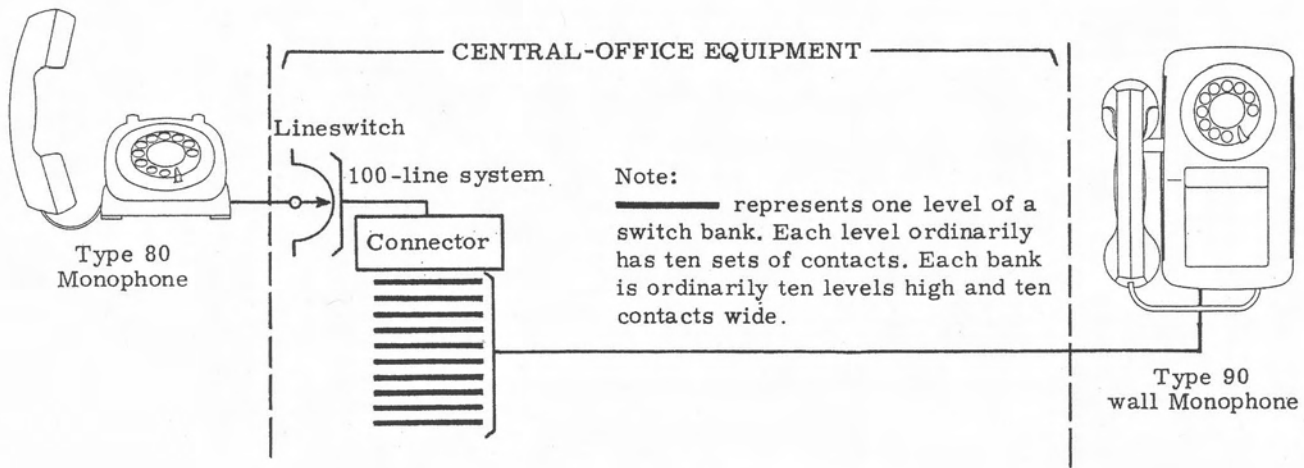

Fig. 61. 100-line system using lineswitches.
In 1906 a smaller and less expensive switch, the "lineswitch", was introduced. In a lineswitch system (figure 61), each subscriber's line has a lineswitch. When the caller lifts his handset from the hook to make a call, the lineswitch automatically connects the line to an idle selector or connector. This reduces the number of more expensive selectors and connectors. Since each selector or connector is used by more than one line, it is in use for a larger percentage of the time, and therefore the more expensive equipment is used more efficiently.
44. LINESWITCH HUNDRED-LINE SYSTEM (FIG. 61)
The hundred-line system shown in Fig. 61 consists of lineswitches (one for each telephone line) and connectors. The process of setting up a call is briefly as follows: